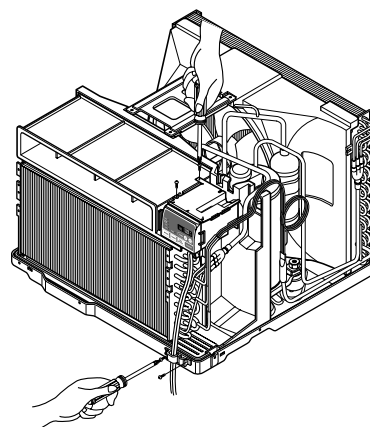

Figure 15
13. Raise the control box upward completely. (See Figure 15)